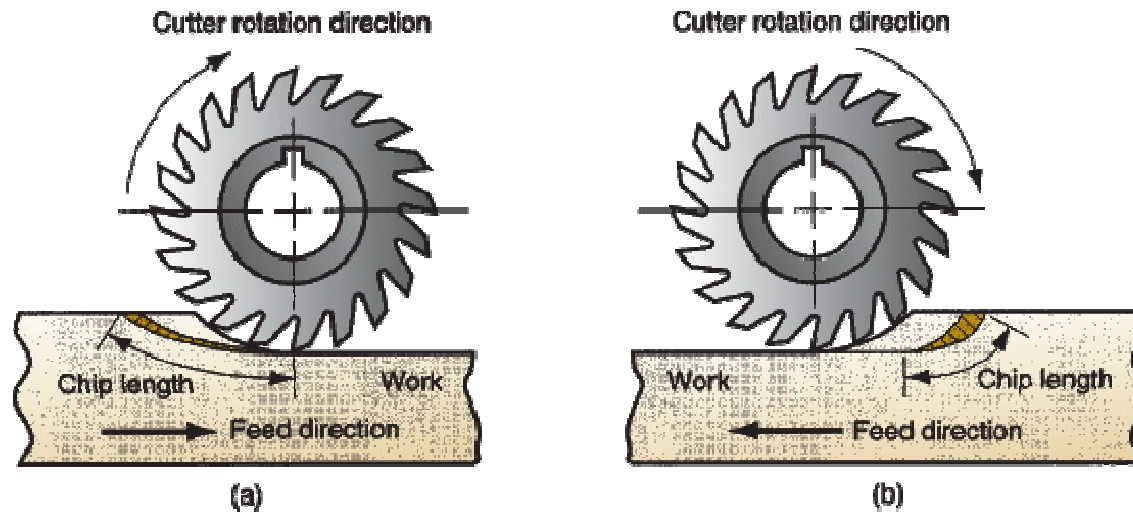

FIGURE 21.19 Two forms of peripheral milling operation with 20-tooth cutter: (a) up milling, and (b) down milling.
- In peripheral milling, the direction of cutter rotation distinguishes two forms of milling: up milling and down milling, illustrated in Figure 21.19. In **up milling**, also called **conventional milling**, the direction of motion of the cutter teeth is **opposite** the feed direction when the teeth cut into the work. It is milling “against the feed.” In **down milling**, also called **climb milling**, the direction of cutter motion is the same as the feed direction when the teeth cut the work. It is milling “with the feed.”